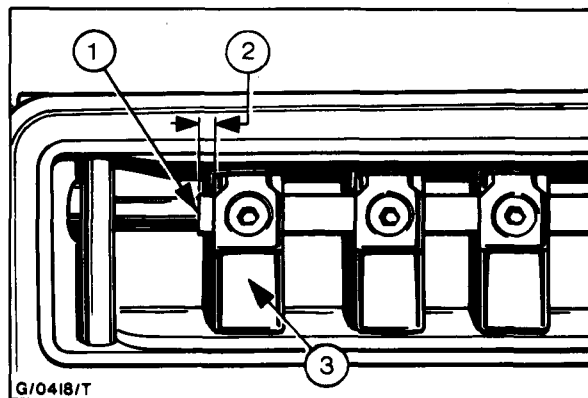

Fig. 67 - Setting the Master Fork
7. Set the master fork on the end of the square section of the control rod as shown and tighten the Allen screw (Fig. 67).